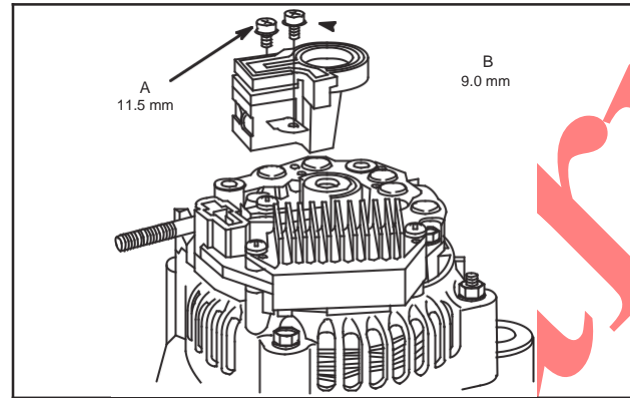

Fig. 42 – Install Brush Holder
**Important:** Length of brush retainer screws are different. Install as shown, Fig. 42. Screw "A": 11.5 mm